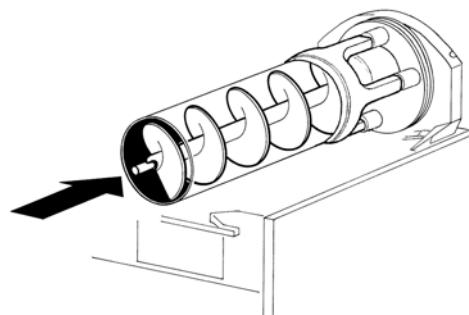

figure 14
- 5 Insert the auger into the evaporator taking care to accompany it to the end so as to prevent it from hitting against the rear wall (see figure 14).